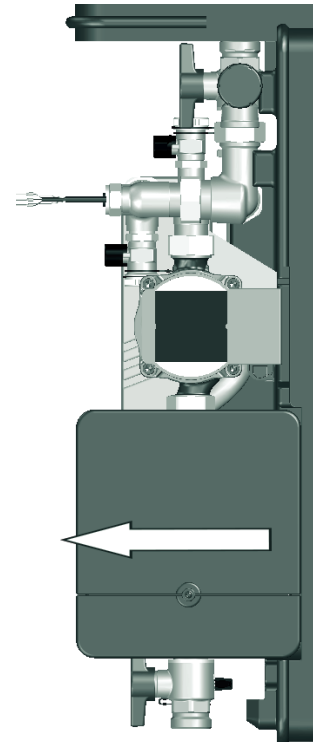

Fig. 22: Removal of the controller from the lower shell
- 1 Carefully pull the controller off the lower shell as shown in Fig. 22 on page 30.
- 11 Put the controller back from the mounting position to the operation position (see Fig. 22 on page 30).